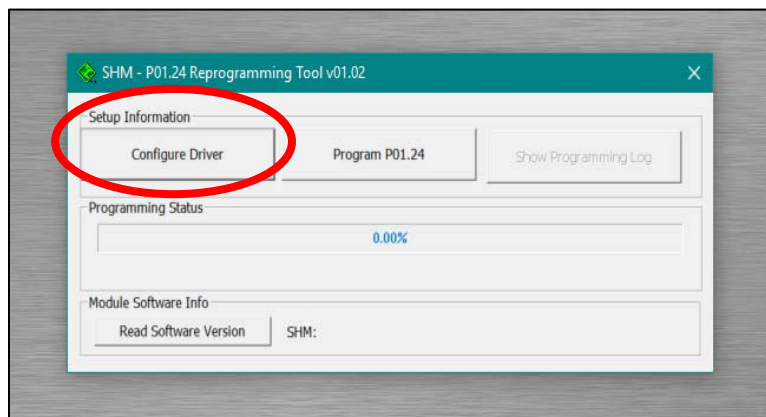

Figure 3: Configure Driver
3. Select *Configure Driver* (must be done each time the software is opened). See **Figure 3**.